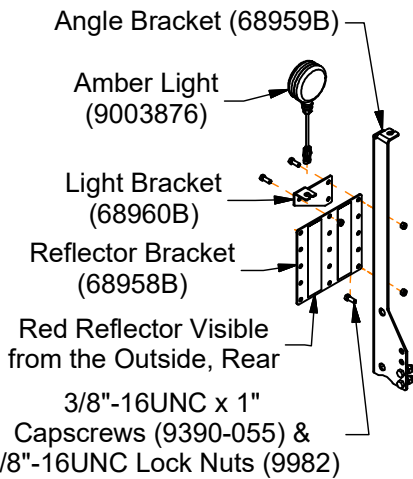

FIG. 2-22
1. Reattach the reflector brackets (68958B) and assemble the light bracket (68960B) on the left-hand outer reflector assembly and right-hand outer reflector assembly at the middle of the angle bracket with the red reflector farthest from the angle bracket as shown in FIG. 2-22 and FIG. 2-23 with 3/8"-16UNC x 1" capscrews (9390-055) and 3/8"-16UNC locknuts (9928). Secure the amber lights (9003876) to the light bracket.